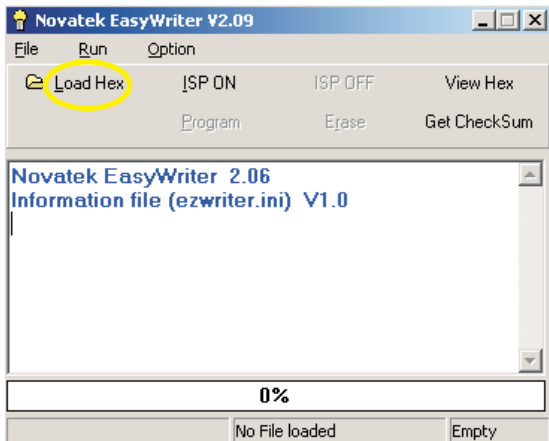
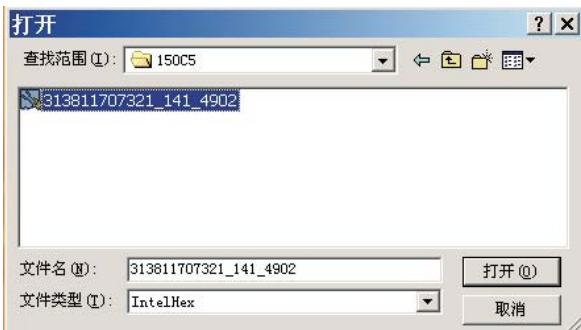

Fig. 8
Fig. 9
2. Press the "Load hex" button then select the 313811707321\_141\_4902 As shown in Fig. 8 and Fig. 9.